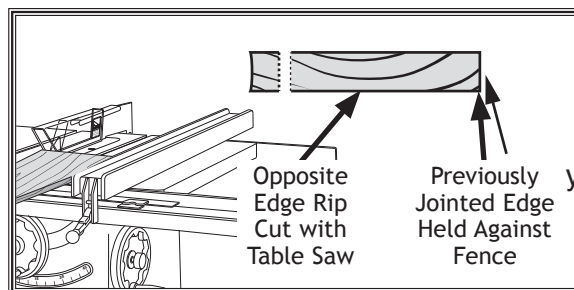

Figure 38. Rip cutting on a table saw.
2. Place the jointed edge of the 2x4 against the table saw fence and rip cut just enough off the opposite side to square up the two edges of the 2x4, as shown in **Figure 38**.